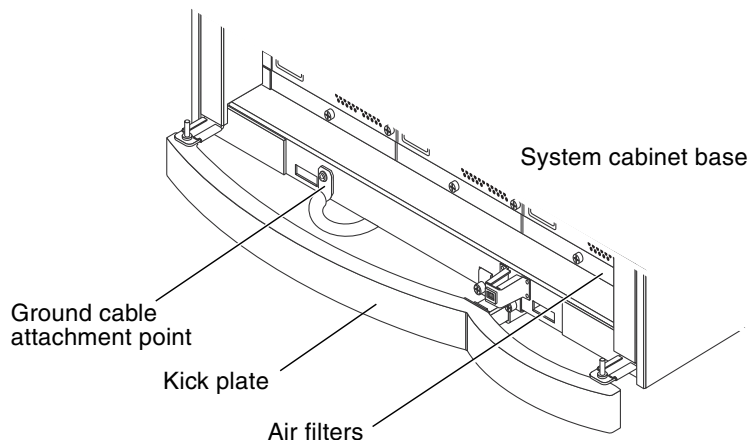

FIGURE 2-3 Ground Cable Attachment Point at System Cabinet
3. **Attach the ground cable to the system, behind the kick plate, at the bottom of the frame base as shown in FIGURE 2-3.**